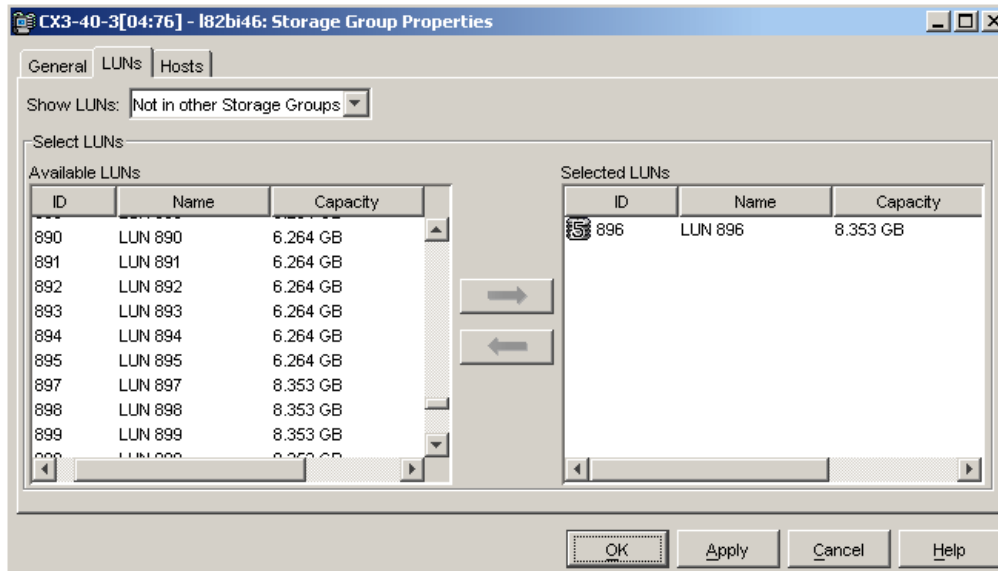

Figure 8-35 I82bi46: Storage Group Properties window
- Define the devices for the first Fibre Channel port on the blade server by selecting the Storage Group created. Right-click the group (I82bi46) and click **Select LUNs**. You will see a window similar to Figure 8-35.